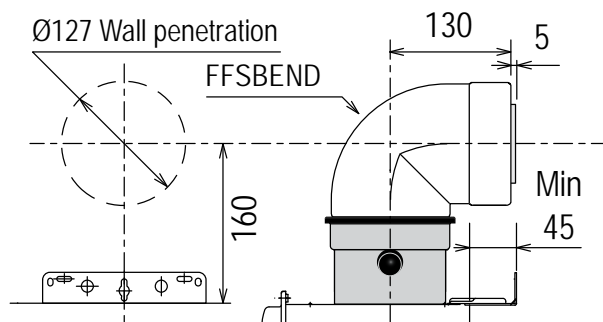

Fig. 9
2. Using the dimensions provided in Fig. 9, mark a point along the appliance centring that is 160mm from the top of the water heater. This mark forms the centre point for the 127mm diameter wall penetration.